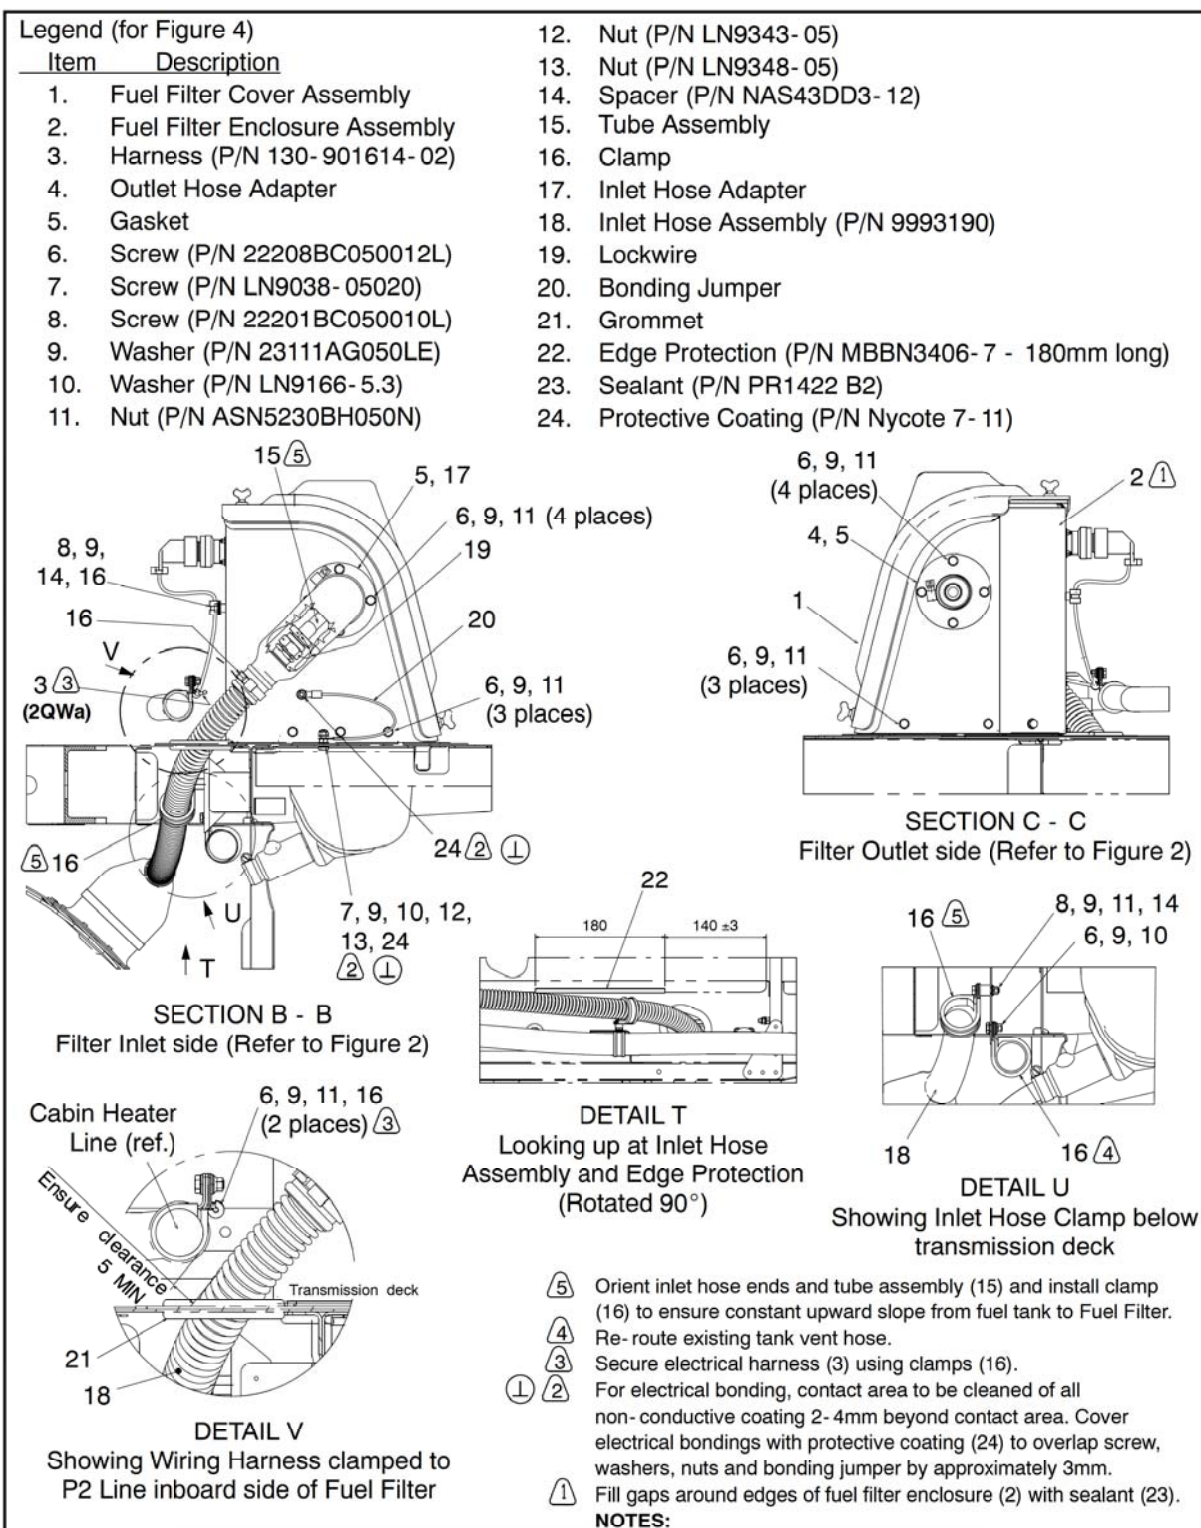

Figure 4 Airframe- Mounted Fuel Filter Installation
- ② Ensure lockwire (3) does not touch the inside of collar (4). Position hose clamp (5) in groove of collar (4).
- ① Orient inlet hose (2) ends and tube assembly (6) and install clamp (16, SECTION B- B in Figure 4) to ensure constant upward slope from fuel tank to fuel filter